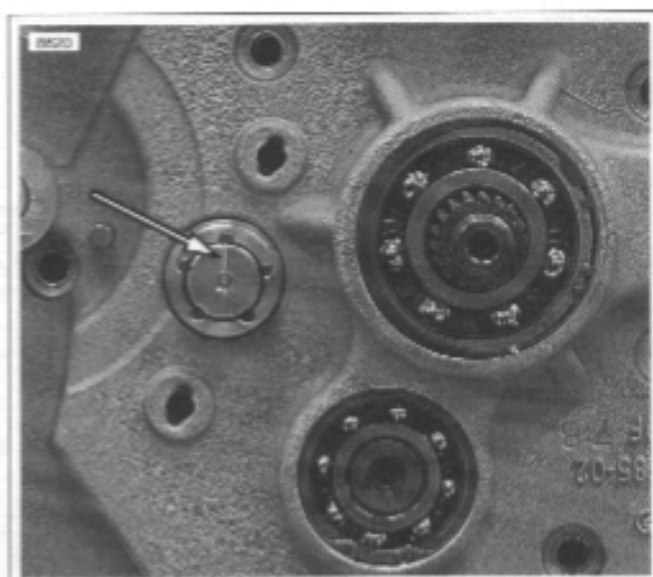

Figure 6-45. Scribed Line on Shifter Drum at 12 o'clock (Transmission in Neutral)
14. See Figure 6-45. Scribe a line on the end of the shifter drum at the 12 o'clock position for later reference.